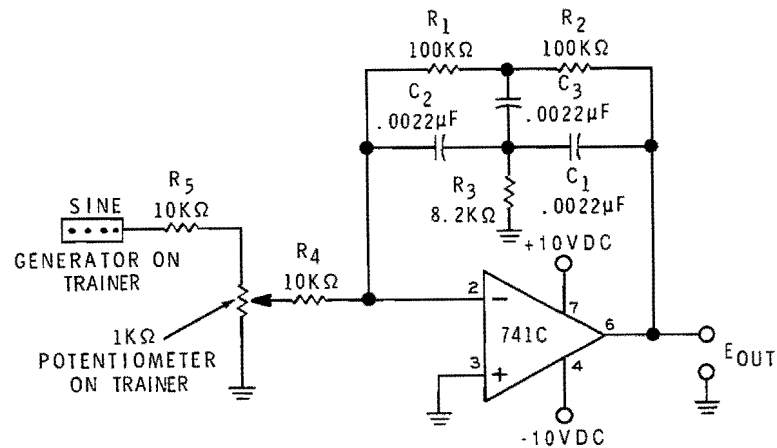

Figure 3-81
Next, let's examine the **bandpass** active filter. It passes a narrow band of frequencies while blocking lower and higher frequencies. The operation of the circuit shown in Figure 3-81 was discussed earlier. The center frequency to which this circuit responds is determined by the formula:
16. Construct the circuit shown in Figure 3-81. Connect channel 1 of the oscilloscope to pin 6 ( $E_{OUT}$ ).